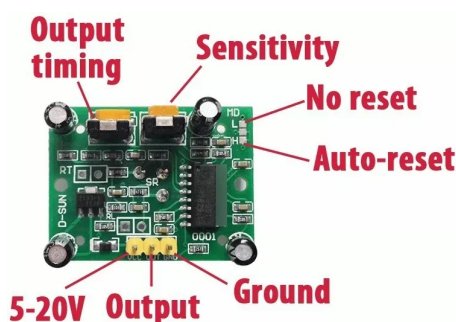

Figure 4.4: PIR Motion Sensor HC-SR501. Source: <https://www.unoelectro.com.ar>.
In this example, we will create automatic light switch that will switch the light on when the motion is detected by PIR motion sensor. For this purpose, we will use a LED diode and a HC-SR501 PIR motion sensor shown in Fig. 4.4 According to the documentation for the HC-SR501 PIR sensor, this sensor should be connected to a power supply from 5V to 20V. On the Raspberry Pi Pico W board, a 5V power supply is supplied on the *VBUS* pin. When using sensors powered by a higher voltage than 3.3V, make sure that the returned signal has a voltage of no more than 3.3V, otherwise we can damage the Raspberry Pi Pico board. Where can I find such information? The easiest way is to find a datasheet for a given sensor on the Internet and read what voltage the high signal generated by the sensor has. In this case, the manufacturer states that the HC-SR501 PIR sensor returns signals with a value of 3.3V or 0V.
5. Now run the program and check how the motion sensor behaves. Fig. 4.4 shows two potentiometers marked as "Output timing" and "Sensitivity". You can use them to adjust the motion sensor. We recommend setting the "Output timing" potentiometer to the lowest value possible and adjusting the sensitivity to your own taste. Don't worry if the sensor returns the value 1 several times after detecting movement. This is normal because the shortest signal duration is longer than the execution time of the main program loop. Once you have adjusted the motion sensor, continue writing the program.